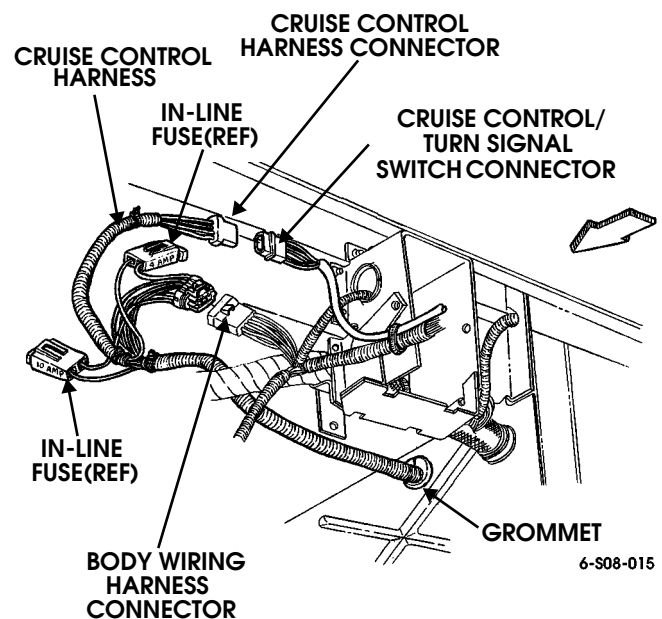

Figure 13-70: Cruise Control Harness
1. Install grommet and harness on body (Figure 13-70).